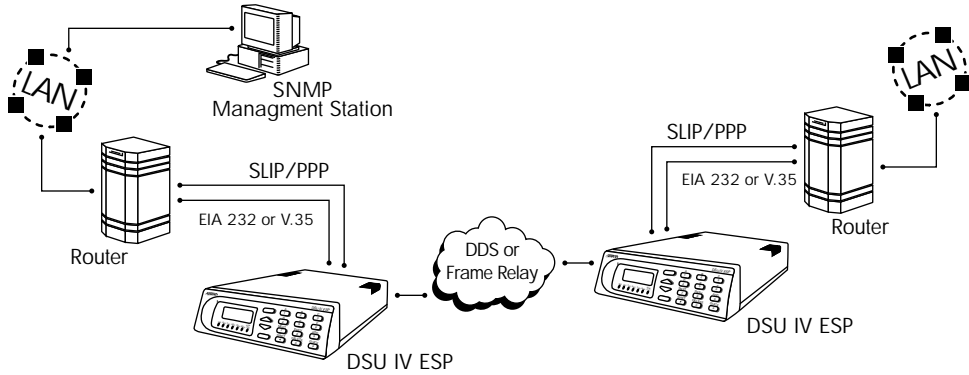

Figure 4-1
- A device (i.e., a router) running SLIP protocol. Connection is made through the DSU IV's control port. See Figure 4-1.
- A device (i.e., a router) running async PPP protocol. Connection is made through the DSU IV's control port. See Figure 4-1.